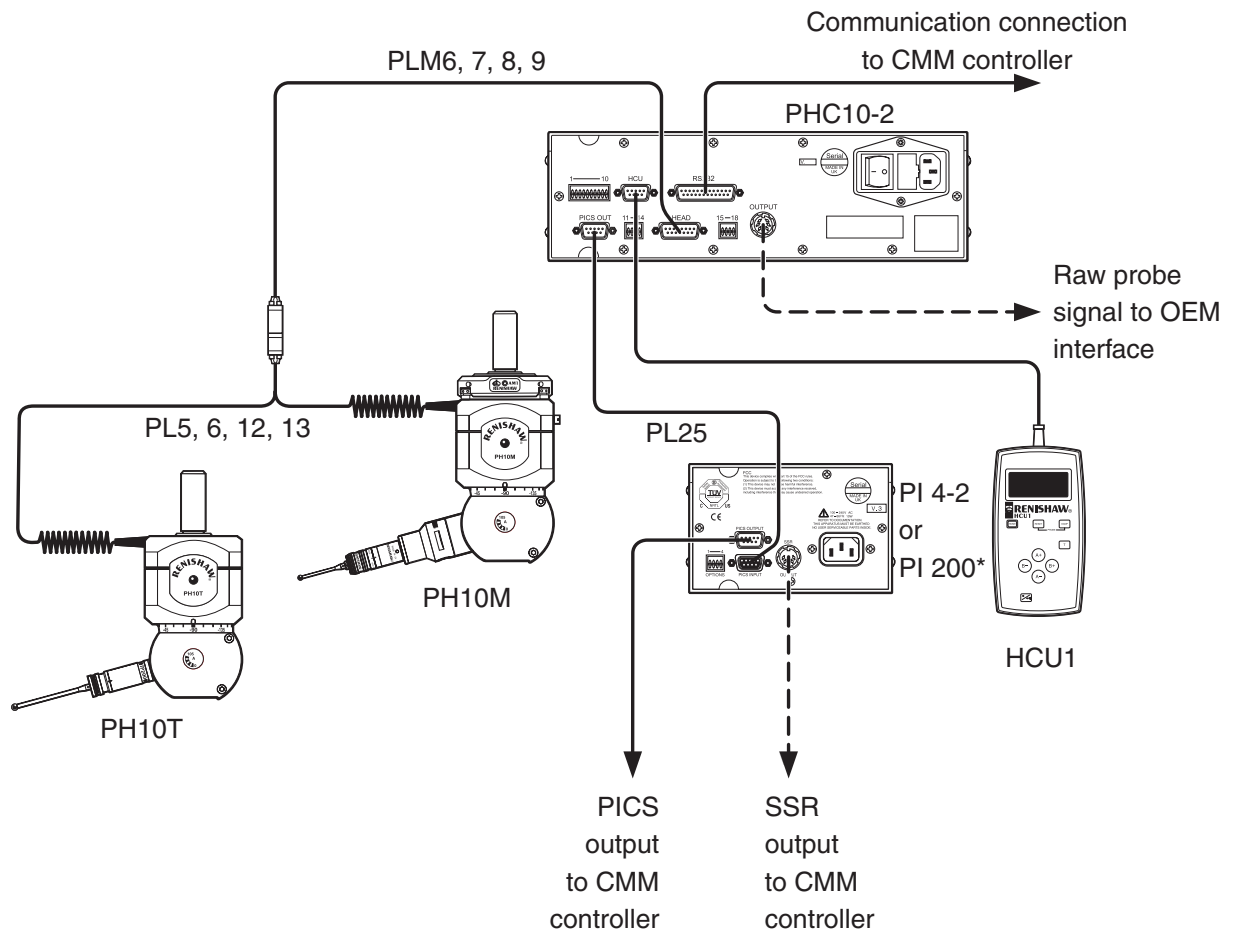

Figure 22 - PH10 system with standard two-wire touch-trigger probes
- The PH10T or PH10M system with standard two-wire touch-trigger probes (see figure 22 and table 21)